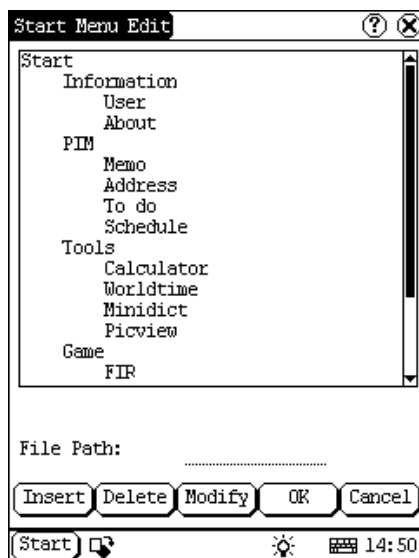

Figure 4-34
- 2) Then you can see the corresponding information in the list box of the interface. (See Figure 4-34)